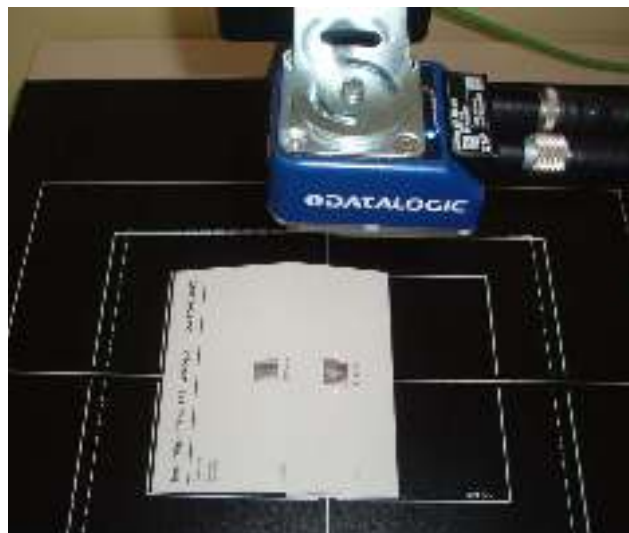

Figure 4 – X-PRESS Interface; Aim/Autofocus Function
4. Release the button to enter the Aim function. The aiming system turns on, and the Autofocus procedure begins, see Figure 4 -. The Aim LED will blink until the procedure is completed.